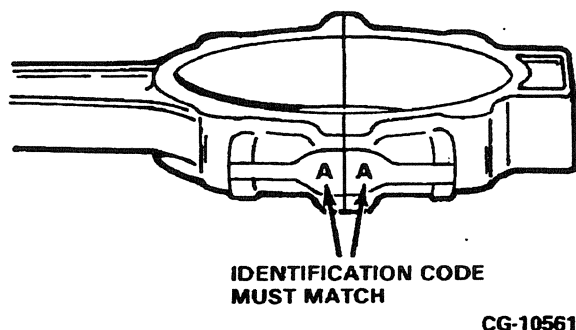

Figure 5.15. Connecting Rod Identification Code (Must be matched prior to assembly)
**NOTE:** Rods and caps are matched. Assemble connecting rod and cap with matching identification code on the same crankpin from which removed. Refer to Figure 5.15.